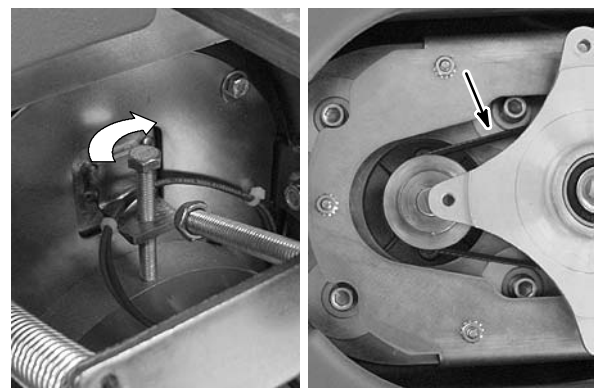

FIG. 15
4. Turn the tension bolt clockwise until the mid point of the belt measures 6mm deflection at 4.5 Kg of force (Figure 15).